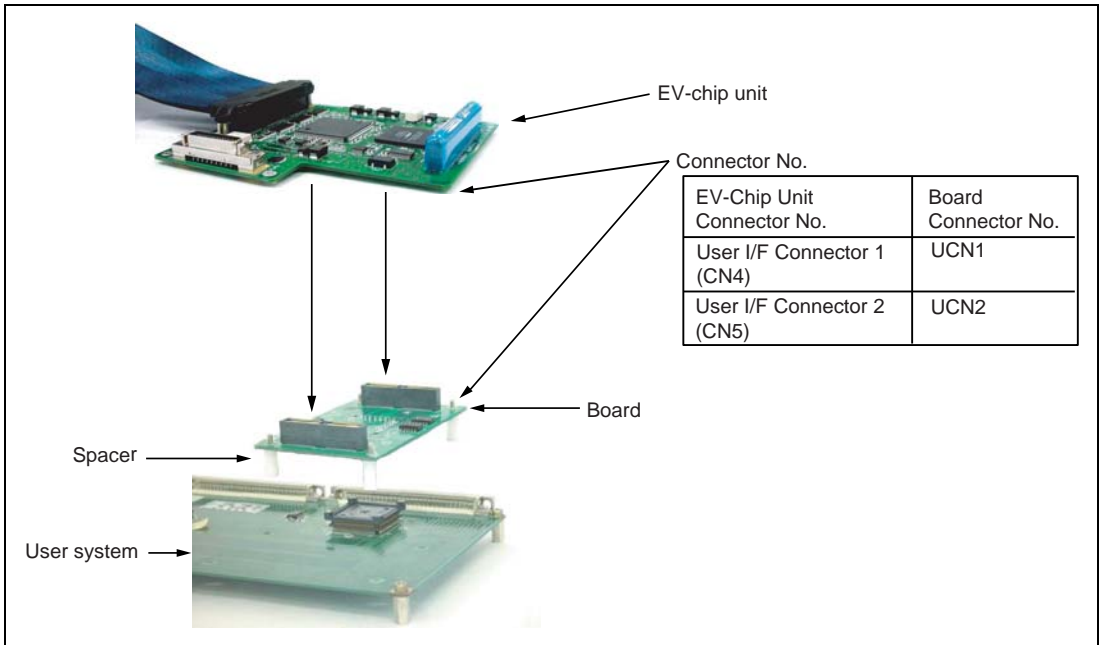

Figure 5 Connecting User System Interface Board to EV-Chip Board
2. Align the connectors on the board with those on the EV-chip board according to their numbers (figure 5).